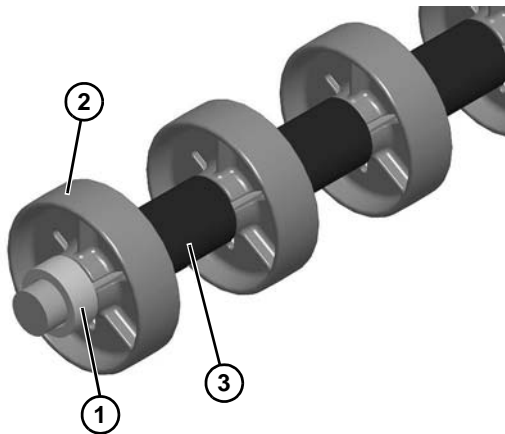

Figure 65
- Remove spacer (**Figure 65, item 1**), rollers (**Figure 65, item 2**) and tube spacers (**Figure 65, item 3**) from shaft.